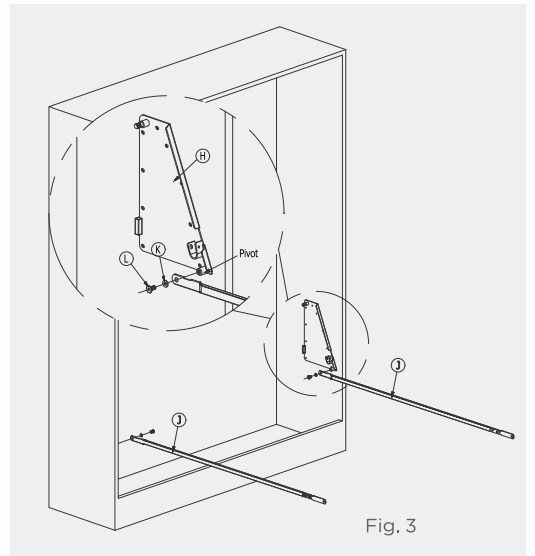

Fig. 3
- Install one Rectangular Link Assembly (J) to corresponding pivot welded on the plate (H) using a $\varnothing 8.5 \times 17$ washer (K) and a M8 Flat Head screw (L). Be careful to the indentation: it should face the pivot! Follow same procedure for both Rectangular links (Refer Fig.3)